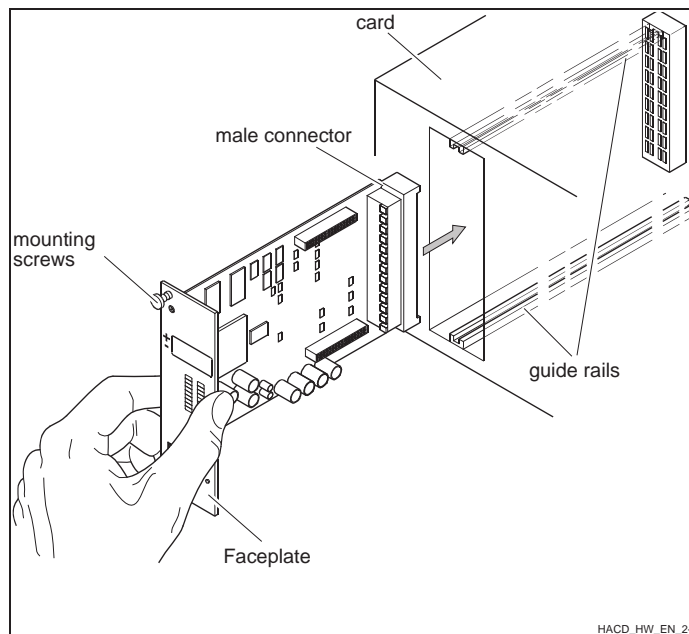

Fig. 2 Installing the controller card
Do not touch any electrical components when placing the controller card in its proper card holder as shown in Fig. 2..
- Slide the card into the guide rails of the rack without using excessive force, as shown in Fig. 2 "Installing the control card".